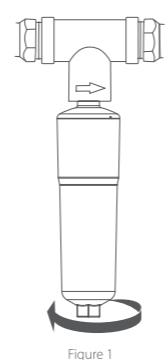

Figure 1
3. Unscrew the cartridge to the left as shown in the illustration (Figure 1).